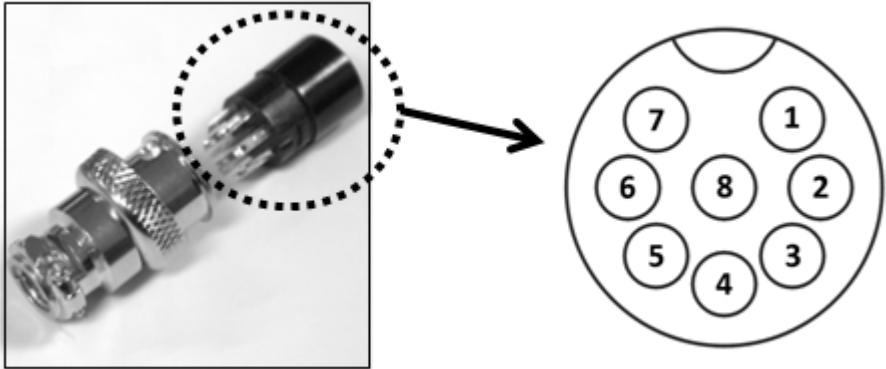

Figure 4 - Pin Numbers
- (b) Solder 5 wires (22AWG) to pins 1, 2, 3, 4, and 5 of pin plug. Refer to Figure 4 for pin numbers.